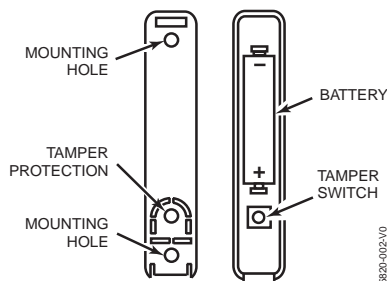

Figure 2. 5820 Mounting/Battery Location
Front and back case tamper is provided using the same switch. The front case tamper is always enabled. Adding the third screw as shown in Figure 2 enables the back case tamper.
Observe polarity and install battery supplied between the contacts in the case as shown in figure 2. Snap-shut the two halves of the transmitter case.
3. Install mounting screws in the two outside mounting holes as shown in Figure 2.
2. **Observe correct polarity and insert the battery** provided into the battery retainer clips as shown in Figure 2.